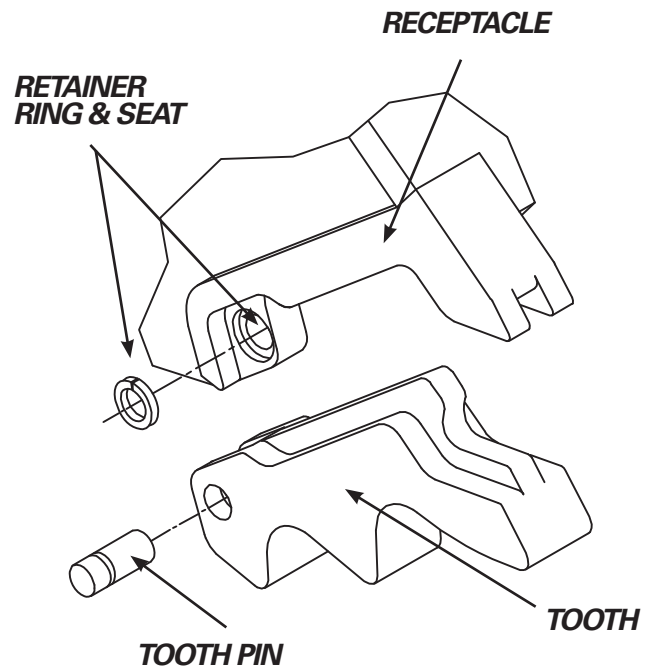

FIGURE 5-3
3. Use a soft metal drift (such as brass) and a mallet to drive out the tooth pins (figure 5-3).
5. Insert the new tooth by sliding it into the slot in the seat. Make sure the retainer ring is located in its pocket in the tooth seat before installing the tooth (figure 5-3 on page 6).